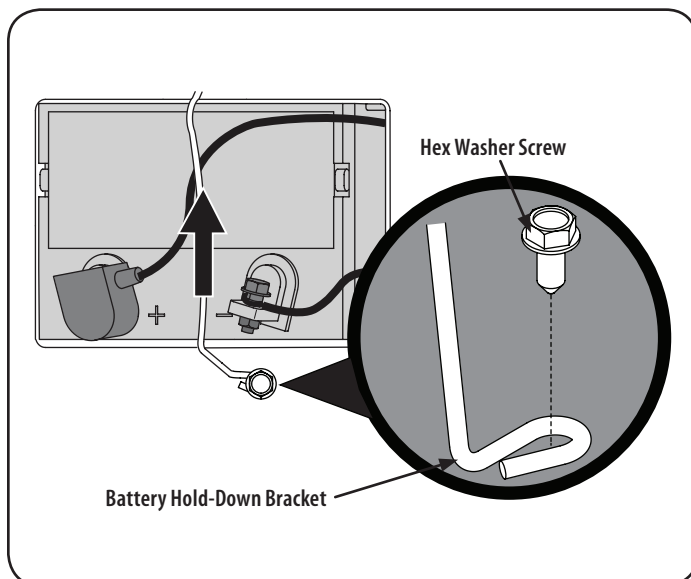

Figure 21
1. Remove the hex washer screw securing the battery hold-down bracket to the frame. Then flip the battery hold-down bracket up to free the battery. See Figure 21.